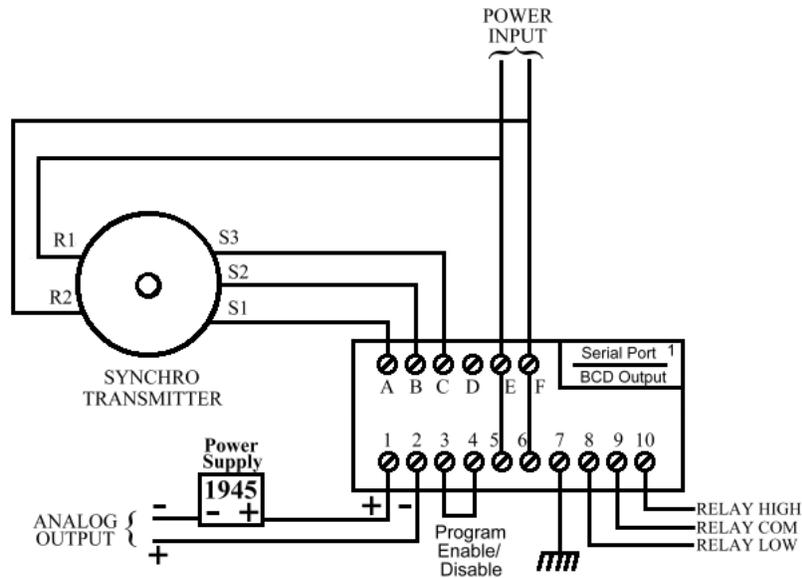

Figure 1.3 Field Wiring Diagram with 4-20mA Output
- 3) Models with 4-20 mA analog output options must have an EXTERNAL LOOP POWER SOURCE of 10.0 VDC minimum, 24.0 VDC maximum, in series with the current loop. The INCON Model 1945 Power Supply is recommended for these installations, (See Figure 1.3, page 7).